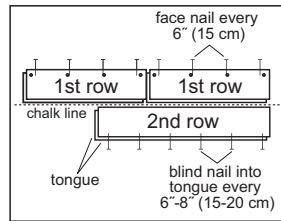

Figure 8
- Use a pneumatic brad nailer to face-nail the groove side 1/2" (13 mm) from the edge of the wall at 6" (15 cm) intervals and 1"-2" (2.5-5 cm) from each end then face-nail at a 45° angle-down through the nailing "pocket" on top of the tongue (Figure 8). OR pre-drill the nail holes 1/2" (13 mm) from the back (groove) edge, 1"-2" (2.5-5 cm) from each end, and at 6" (15 cm) intervals. Pre-drill at the same intervals at a 45° angle down through the nailing "pocket" on top of the tongue (Figure 8). Face-nail the groove side where pre-drilled.